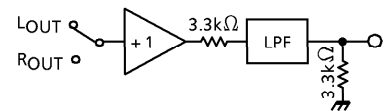

Fig.10 Filter circuit
• For measurement of the THD₄, V_{in}(Max.), and SEP the filter shown in Figure 10 is used.